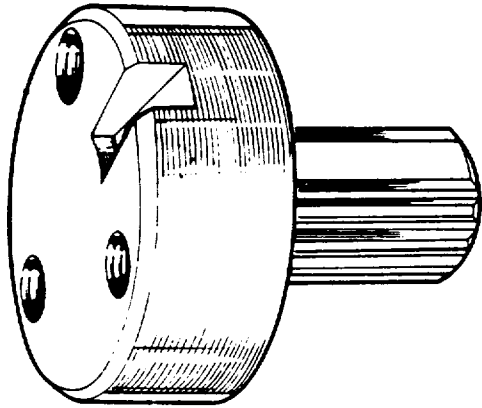

Fig. K.8.
2. Fit adaptor PD67B-1 (see Fig. K.8) to the fuel pump gear so that dowel of gear locates in slot of adaptor and shaft of adaptor is towards rear of engine. Secure adaptor to gear using gear securing setscrews.